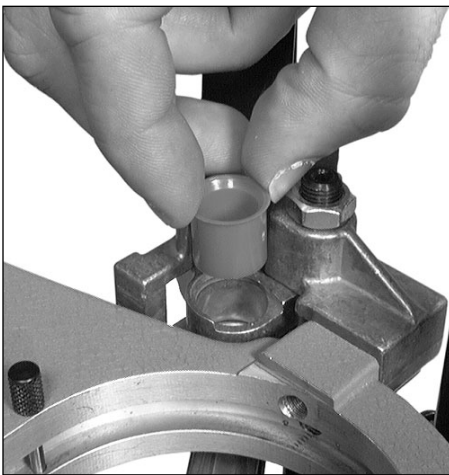

FIG 181
3. To replace the casefeed arm bushing first raise the platform. Remove the casefeed arm bushing (currently installed in your machine) and replace it with the new one **FIG 181**.